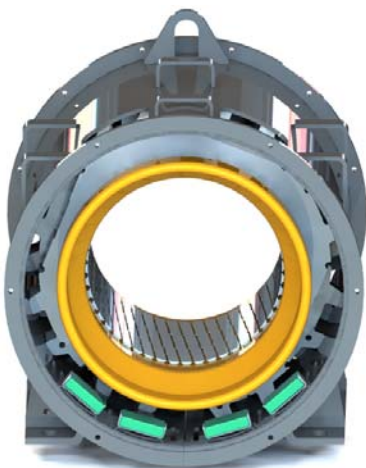

Figure 6.2: Ceramic resistances attached in clamps
6. Attach the ceramic resistance in the metal clamps, according to Figure 6.2;